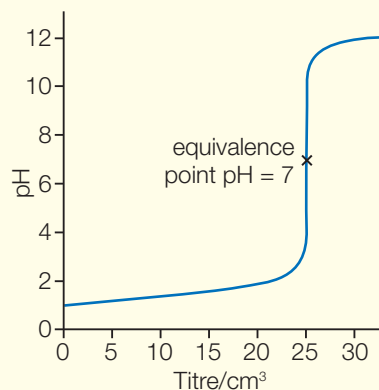

Figure 12.18 ◀
Figure 12.18 shows the shape of the pH curve for a titration of a strong acid, such as hydrochloric acid, with a strong base, such as sodium hydroxide.
- 5 Show that your answers to questions 1, 2 and 3 are consistent with Figure 12.18.
- 6 What features of the curve plotted in Figure 12.18 are important to the practical accuracy of acid–base titrations of this kind?
- 33** Why is the equivalence point reached at 25 cm^3 in both of the titrations illustrated in Figures 12.18 and 12.19?
During the titration of a strong acid with a weak base, the flask contains a strong acid at the start and the titration curve follows the same line as in Figure 12.18. In a titration of hydrochloric acid with ammonia solution, for example, the salt formed at the equivalence point is ammonium chloride.
Since ammonia is a weak base, the ammonium ion is an acid. So a solution of ammonium chloride is acidic and the pH is below 7 at the equivalence point. After the equivalence point, the curve rises less far than in Figure 12.18 because the excess alkali is a weak base and is not fully ionised.
The indicator chosen for a titration must change colour completely in the pH range of the near vertical part of the pH curve (see Figures 12.18, 12.19 and 12.21). This is essential if the visible end-point is to correspond to the equivalence point when exactly equal amounts of acid and base are mixed. Table 12.2 gives some data for four common indicators. Note that each indicator changes colour over a range of pH values, which differs from one indicator to the next.